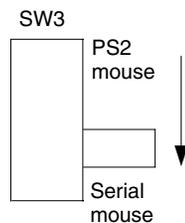

**FIG. 14** Switch setting for keyboard use with PC connected
- For keyboard use with a PC, slide the SW2 switch to the "PC" position as shown in FIG. 14.